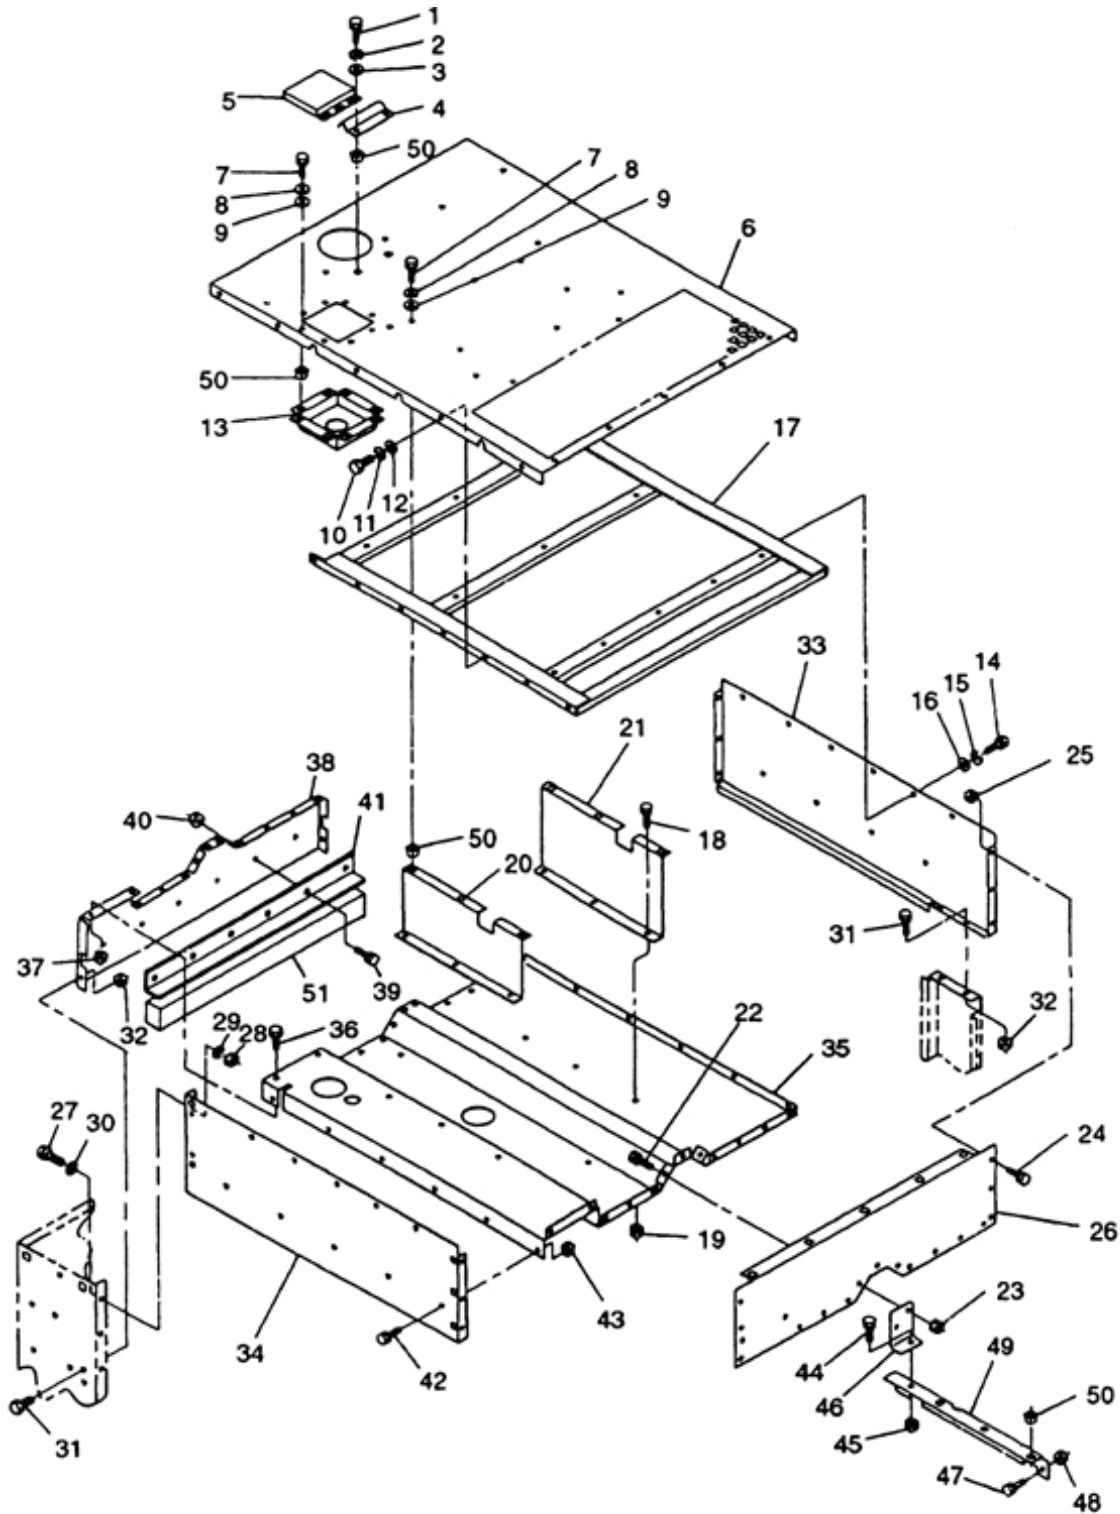

Figure 2-7. Generator Set Top Housing Section.
- c. Remove bolts (1, Figure 2-7), flat washers (3), lock washers (2), mount (4), and exhaust cover (5) from top housing panel (6). Discard lock washers (2).
- d. Remove bolts (7 and 10), flat washers (9 and 12), lock washers (8 and 11), and top housing panel (6) from generator set. Discard lock washers (8 and 11).
- e. Disconnect radiator fill hose and overflow hose from radiator fill panel (13) and remove radiator fill panel (13) from generator set.
- f. Remove bolts (14), flat washers (16), lock washers (15), and frame (17) from generator set. Discard lock washers (15)
- h. Remove bolts (18), assembled nuts (19), and air duct channels (20 and 21).
- i. Remove bolts (22 and 24), assembled nuts (23 and 25), and panel (26).
- j. Remove bolts (27 and 31), flat washers (30), lock washers (29), nuts (28), assembled nuts (32), and top side panels (33 and 34) with top section floor panel (35). Discard lock washers (29).
- k. Remove bolts (36), assembled nuts (37), and panel (38) from floor panel (35).
- l. Remove bolts (39), assembled nuts (40), and support (41) from panel (38).
- m. Remove bolts (42), assembled nuts (43), and side panels (34 and 33) from floor panel (35).
- c. Inspect all cage nuts (50, Figure 2-7) for cracking or stripped threads.
- d. Inspect seal (51) for tears, looseness, and deterioration.
- c. Repaint surfaces in accordance with TM 43-0139. (F) Refer to applicable directives.
- d. Replace any cage nuts (50, Figure 2-7) that are stripped or cracked.
- e. Replace loose or damaged seal (51).
- a. Install angle (49, Figure 2-7) in generator set with bolts (47) and assembled nuts (48).
- b. Install bracket (46) to angle (49) with bolt (44) and assembled nut (45).
- c. Install top side panels (34) and (33) on top section floor panel (35) with bolts (42) and assembled nuts (43).
- d. Install support (41) on panel (38) with bolts (39) and assembled nuts (40).
- e. Install panel (38) on top section floor panel (35) with bolts (36) and assembled nuts (37).
- f. Position top section floor panel (35), with side and front panels attached, in generator set and secure with bolts (27 and 31), flat washers (30), new lock washers (29), nuts (28), and assembled nuts (32).
- g. Install panel (26) with bolts (22 and 24) and assembled nuts (23 and 25).
- h. Install air duct channels (20 and 21) with bolts (18) and assembled nuts (19).
- j. Install frame (17) with bolts (14), flat washers (16), and new lock washers (15).
- k. Install radiator fill panel (13) in generator set and connect radiator fill hose and overflow hose to panel (13).